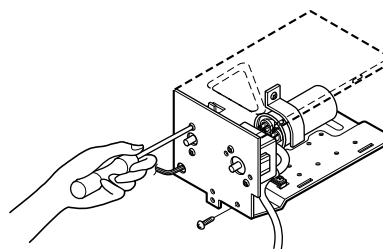

Figure 28
6. Re-install the components by refereing to the above removal procedure. (See Figure 28)